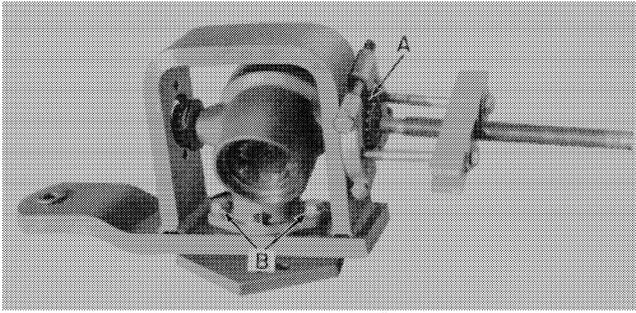
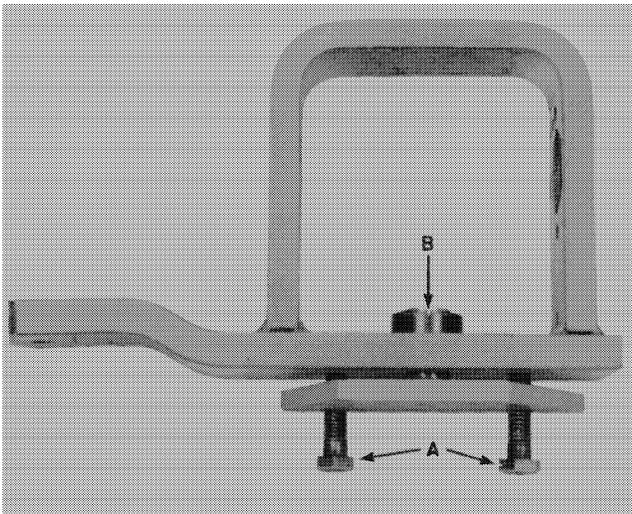
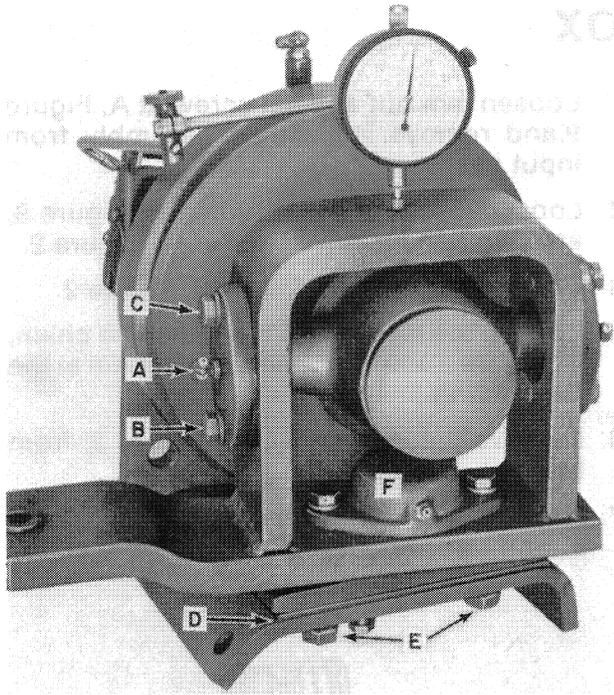

FIGURE 5
FIGURE 6
FIGURE 8
2. To disassemble yoke assembly, remove trunnion bearing caps and shims. Use a bearing puller shown at A, Figure 5, to remove trunnion bearing and seal assemblies. Do not try to save these assemblies, because the seal is usually damaged when removed.
3. Remove bolts, B, Figure 5, from steady rest bearing cap and gasket. Install two ½" cap screws at A, Figure 6, and turn bolts in against yoke to remove steady rest bearing and locking collar, B, Figure 6, as one assembly.
2. Install steady rest support, Figure 6. If steady rest bearing was replaced do not install locking collar, B, at this time.
3. Install the wobble hub, Figure 5, in the wobble yoke. **NOTE: Make sure large part of hub is to the rear as shown.**
Install trunnion bearing and seal assemblies. Install an equal amount of shims under both bearing caps. Make sure the bearing caps have the grease fittings pointed out as shown at A, Figure 8.
Tighten bolts, B and C, Figure 8, evenly on both sides. Make sure the caps do not set up a binding load on the radius of the yoke. Add or subtract shims under the bearing cups until it takes 6-10 in. lbs. (.68-1.13 N·m) force to rotate the hub. The hub should not have any binding or end-play. Shim sizes are .003", .005", .007", and .020".
5. Install spacer, D, and two bolts, E, Figure 8, and tighten bolts. If steady rest bearing was replaced, locking collar, B, Figure 6, can now be installed and tightened. This procedure will insure that the bearing is not moved out of its original position. Install gasket and bearing cap, F, Figure 8.
6. Loosen bolts, E, Figure 8, two full turns. The wobble yoke assembly should not have any more than .006" (.15 mm) vertical movement while turning the wobble sheave through one full revolution. A dial indicator, shown in Figure 8, should be used to check movement. If there is more than .006" (.15
mm) movement, recheck bearings for proper seating and pre-load. **IMPORTANT:** Excessive movement will cause repeated steady rest bearing and knife head bushing failures. Bolts, E, Figure 8, can now be removed.